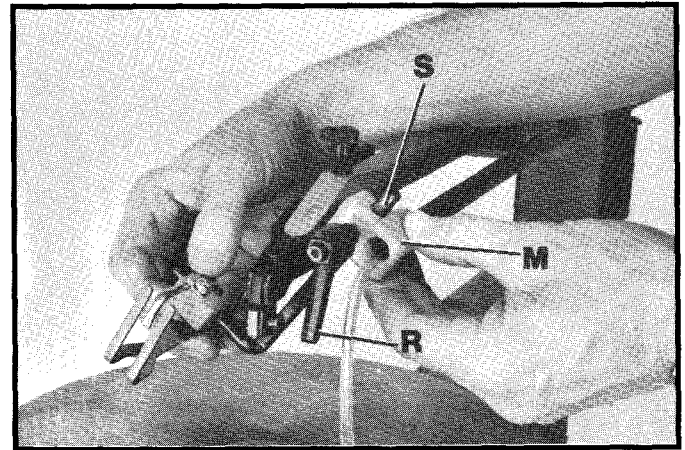

Fig. 9
7. Rotate bracket (M), to the position shown in Fig. 9. Loosen lock handle (R) and insert holddown rod (S) into hole in bracket (M), as shown.